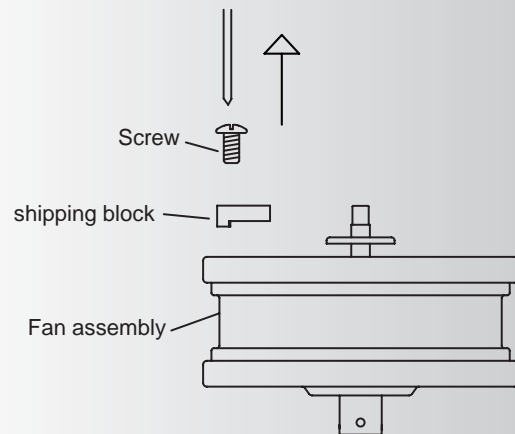

Fig. 5
Step 1. Remove the fan motor and housing assembly from the protective plastic bag and take the lower styrofoam packing pad out of the carton. Place the styrofoam pad on the floor, then place the fan assembly into the styrofoam pad with the bottom of the motor facing up. (The styrofoam pad serves as a holder for the fan during the first stages of assembly). Remove the plastic motor shipping blocks and discard. (Fig. 5)